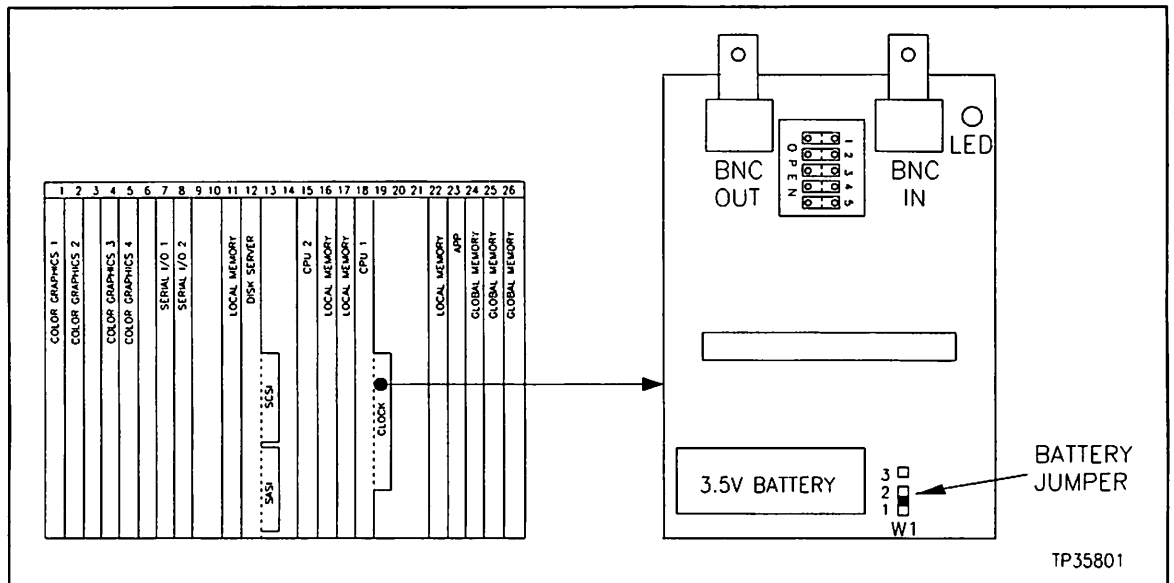

Figure 4-38. Satellite Clock Card
5. The satellite clock card mounts in the same place on CPU 1 as the clock calendar card. If a standard clock card is already on the CPU board, remove it (see Figure 4-38).